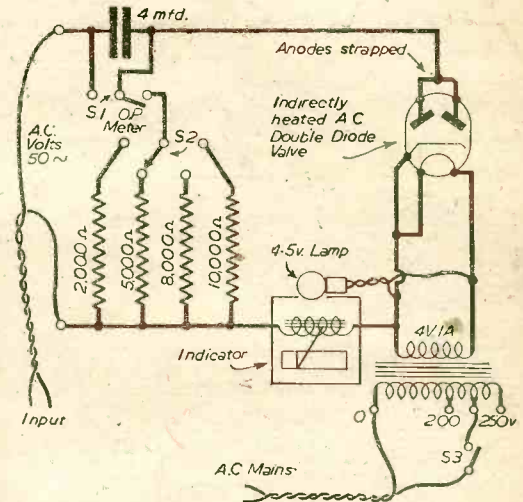

Fig. 3.—Circuit diagram of the output meter described in the text.
In view of the acute shortage of meters of all types, the writer set out to design an output meter giving definite indications in which a meter (in the usual sense) was not required. The result may be seen from the illustrations on these pages, while the circuit diagram of the shadow output meter is shown in Fig. 3. Reference to the latter will show that audio frequency voltages are applied to the anodes and cathode of a mains driven diode valve via the 4 mfd. condenser, which prevents D.C. from reaching the valve. The rectified anode
4. Given a wavemeter, the calibration curve of which is shown in Fig. 3, what should be the setting of the tuning condenser for a wavelength of 41 metres?
Fig. 3.—A tuning or calibration curve for a wavemeter. Arrows show the method of finding the condenser setting for a frequency of 7,313.1 kc/s. In practice, the curve would be drawn on graph paper with considerably more squares, much smaller in size, than those shown here, for clarity in reproduction. Hence, the readings could be taken with very much greater accuracy.
It will be seen from Fig. 3 that the wavemeter calibration curve shows the frequency in kilocycles, against dial readings in degrees. Before we can use it we must therefore convert the required wavelength—41 metres—to frequency in kilocycles. This is easy enough if it is remembered that the speed of radio waves is 300,000,000 metres a second, or that a wavelength of 300 metres corresponds to a frequency of one megacycle, 1,000 kilocycles or 1,000,000 cycles.